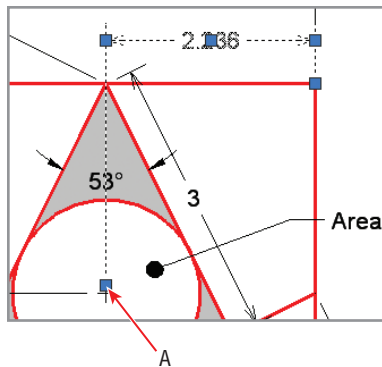

FIGURE 11.22 Grip-editing a dimension object
3. Click the horizontal linear dimension with a value of 2.236 to select it. Click the lower-left grip to adjust the length of this extension line. Snap the grip to point A, as shown in Figure 11.22. Press Esc to deselect.